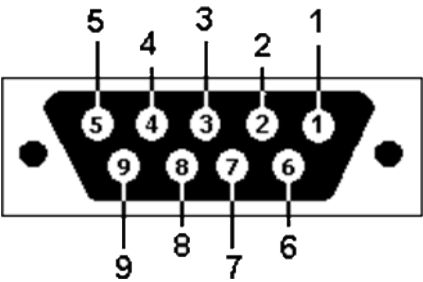

Figure 4-20. MRU External Alarms Connector Pin Out
- 1. Connect the external alarms cable (ordered separately) to the chassis’s DB9 “External Alarms” connector. Refer to Table 4-5 and to Figure 4-20 for pin out information.